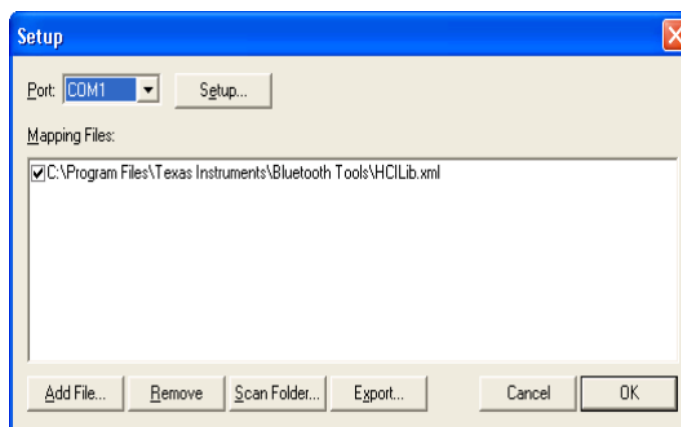

Figure 11. Setup Dialog Box
2. In the Installed Ports field, select the check box of the port to activate (for example, ProtView 1) for the Protocol Viewer. The Setup dialog box displays (see Figure 11).